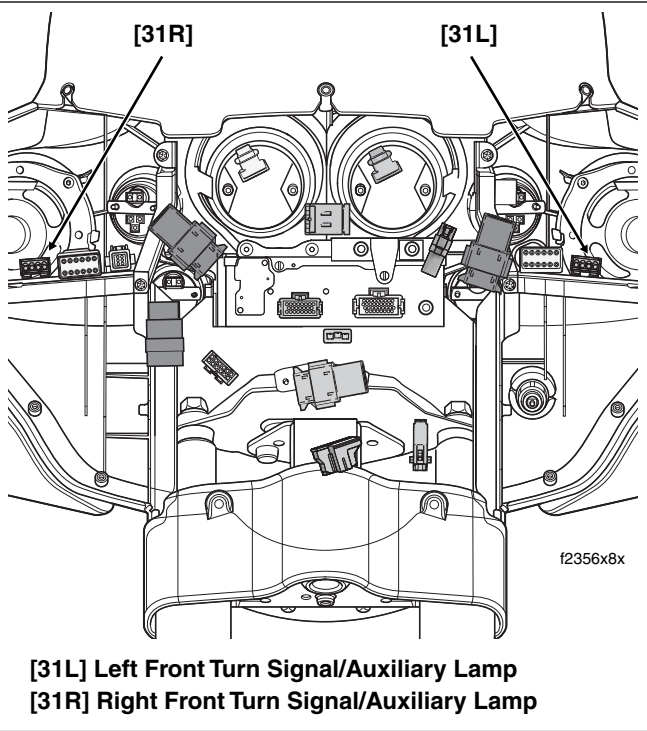

Figure 8-35. Inner Fairing (FLHT/C/U)
2. Proceed as follows: **FLHT/C/U**: Remove outer fairing. See Section 2.30 UPPER FAIRING/WINDSHIELD \(FLHX, FLHT/C/U\), OUTER FAIRING/WINDSHIELD, REMOVAL. Locate the left or right front turn signal/auxiliary lamp connector [31L/R], 4-place Multilock, on T-stud at top of left or right fairing support brace (outboard side). See Figure 8-35.